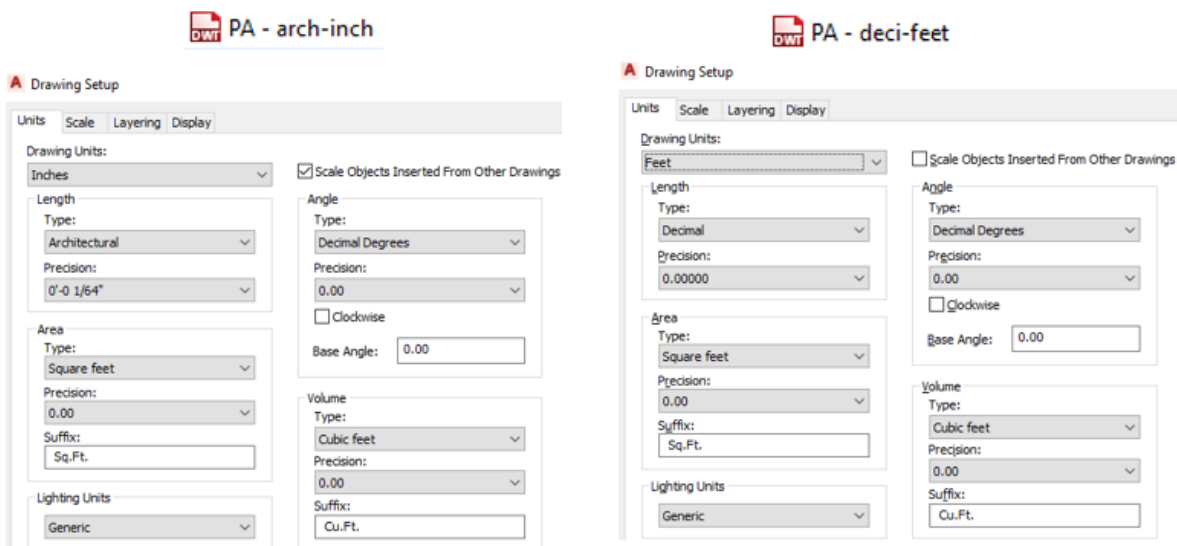

Figure 6.1. AutoCAD Templates Content.
- Other setups of PA's AutoCAD Template are showed in Figure 6.1.